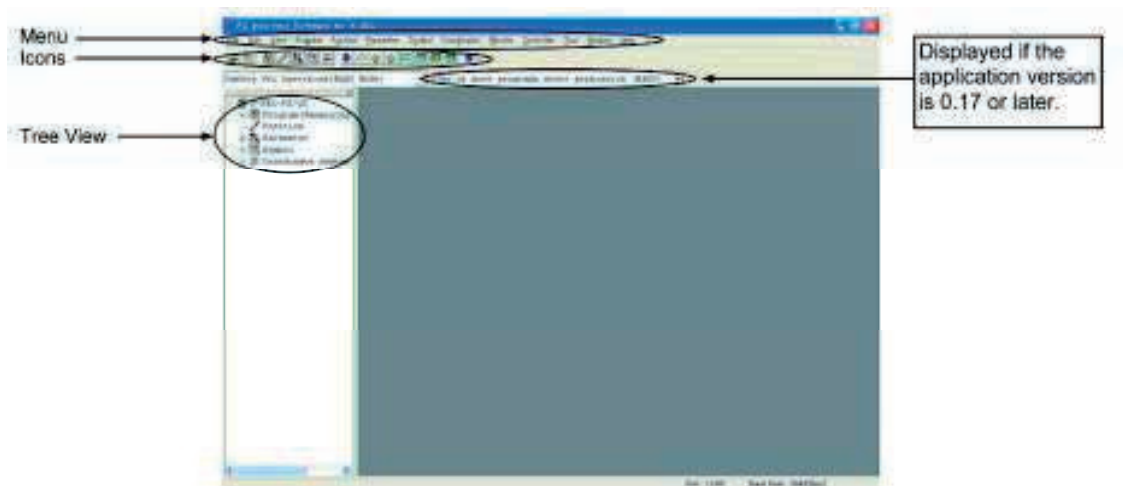

Fig.3.4 Online Screen(X-SEL-PX/QX Controller)
When this software has been started, the main window in Fig. 3.4 will open showing the menu items with icons on the tool bar in the case of the X-SEL-PX/QX controller. The tree view appearing on the left side of the window can be displayed by clicking **View (V)** from the menu bar and then selecting **Tree View (T)**. (Initial window: Main menu)